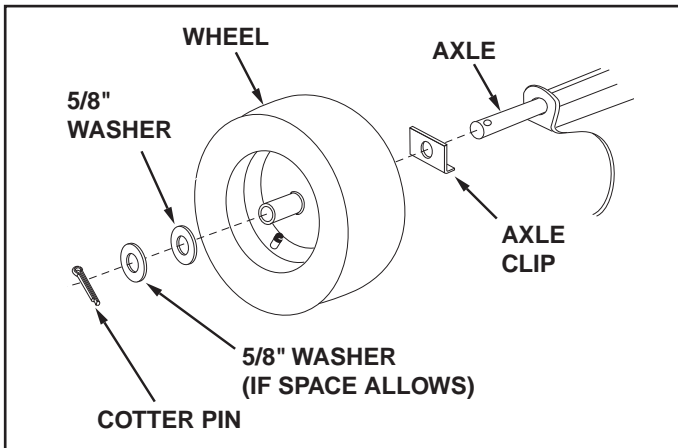

FIGURE 4
- Assemble an axle clip, a wheel and a 5/8" washer onto each end of the axle. Assemble a second 5/8" washer onto each end of the axle if space allows. Secure both wheels in place using two cotter pins. See figure 4.